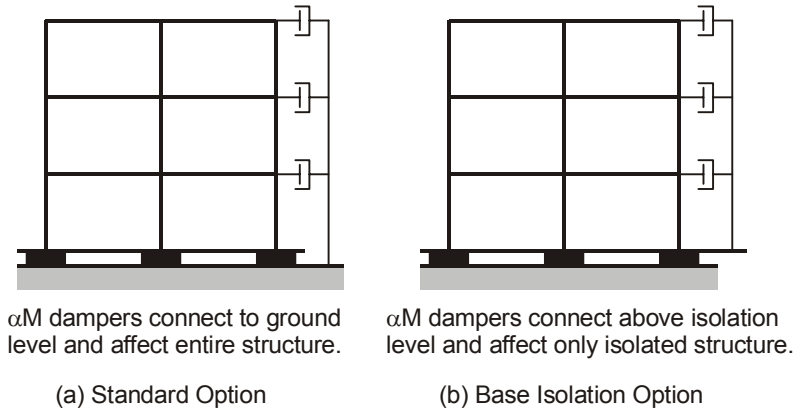

Figure 18.3 Alternative αM Damping Models
If you specify $\alpha M + \beta K$ damping for a structure with seismic base isolation, the physical meaning of the model is as shown in Figure 18.3(a). In this case the αM dampers connect the structure masses to the ground level, below the isolation level. This may not be what you intend, since it can overestimate the amount of damping. An alternative model is shown in Figure 18.3(b). In this case the αM dampers connect the structure masses to the level immediately above the seismic isolators, so that the αM part of the damping applies only to the isolated part of the structure.
- (1) Only the H masses are connected as shown in Figure 18.3(b). If there are any V or R masses, the αM dampers for these masses are connected to the ground.
- (2) The βK damping model does not change.
- (3) You must have a rigid floor constraint at the level immediately above the isolators. The αM dampers connect to this level.